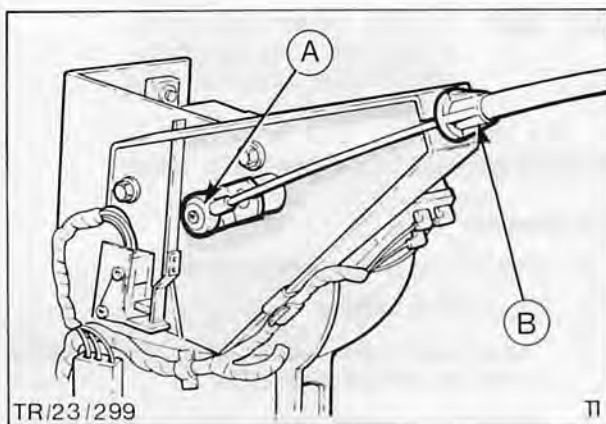

Fig. 91. Stop control cable. ('79 model year)
3. Disconnect inner cable from stop control motor by removing a single cross head screw, Fig. 91.
8. Clip outer cable to motor bracket and secure inner cable to stop control lever, Fig. 91.